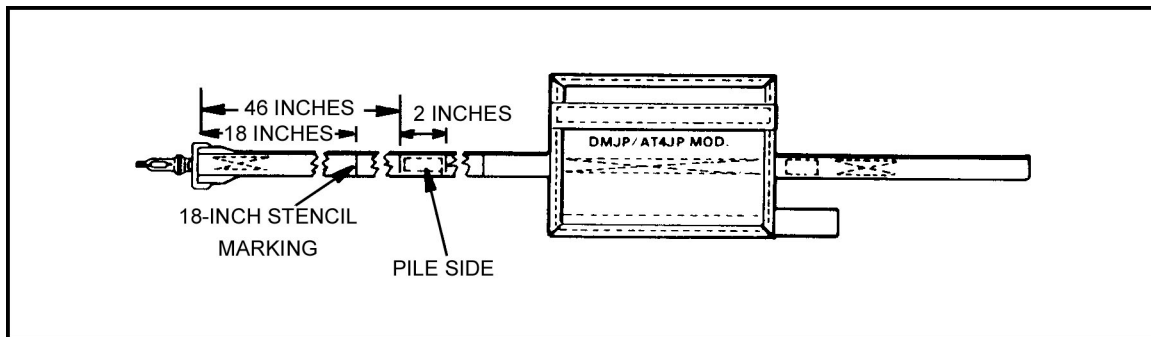

Figure 12-4. Method for attaching HPT and stencil markings.
- (1) Stitching will conform to FED-STD-751, Type 301, 7 to 9 stitches per inch.
- (2) Ends of stitching will be over-stitched not less than 1/2 inch.
- c. **Modification Procedure** (Figure 12-4).
- (1) Carefully cut the stitching that secures the 2-inch-long HPT located about 11 3/4 inches from the ejector snap end and remove cut stitching.
- (2) Cut a 2-inch length of HPT. (If the previously removed HPT is undamaged, it may be used in lieu of replacement tape.)
- (3) Place marks 46 and 48 inches from the folded web edge ejector snap end on the same side of the removed 2-inch HPT of the 1-inch-wide lowering line.
- (4) With pile side facing up, position the 2-inch HPT between the markings and stitch with a single box stitch formation.